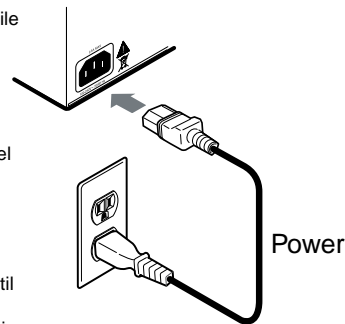

Figure 3-75 — Hard reset
2. Press and **hold** the Reset button on the rear panel **while** you apply AC power to the switcher (figure 3-75).